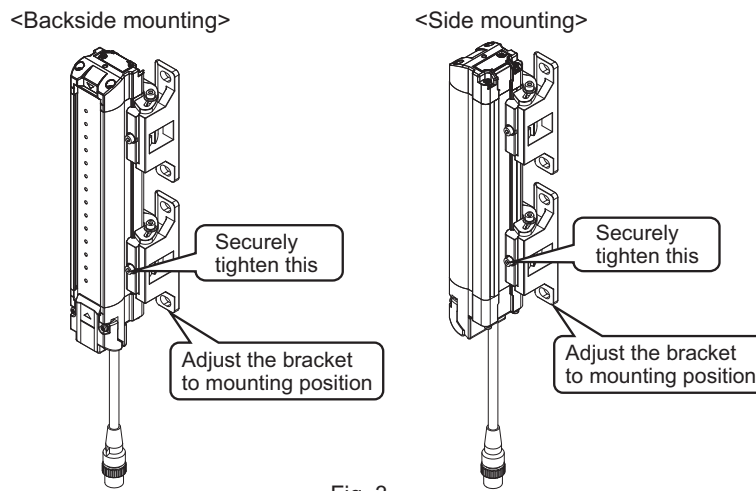

Fig. 3
- Adjust the Standard Adjustable Bracket to the mounting position of the wall surface. Securely tighten the Screw (2) to fix the Standard Adjustable Bracket to the housing of the F3SG-R. The recommended torque to tighten the Screw (2) is 2.0 N•m. (Fig. 3)